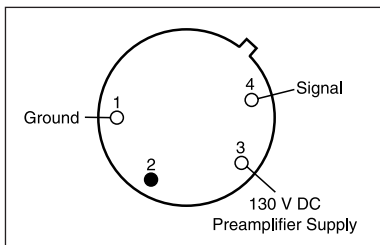

Fig. 1.
Types 4011 and 4012 are acoustically identical, but differ in their preamplifier powering system. The 4012 is powered with 130V via the HMA4000 High-Voltage Microphone Amplifier and has a modified 4-pin XLR-connector (see Fig. 1 for pin designation). This special powering system enables the microphone preamplifier to handle approximately 10dB higher sound pressure level than similar microphone types powered through conventional P48 systems (4012: 168dB SPL peak and 4011: 155dB SPL peak). Both the 4011 and the 4012 together with the HMA4000 are transformerless. The 4011 is powered via a standard P48 system and is equipped with standard 3-pin XLR-connector (see Fig. 2 for pin designation), but has an attenuator switch built into the
**Polarity:** 4012: Positively increasing sound pressure produces positive-going voltage at pin 4. Pin 1: Ground, Pin 2: Not used, Pin 3: 130 V DC preamplifier supply, Pin 4: Signal. See Fig. 1.